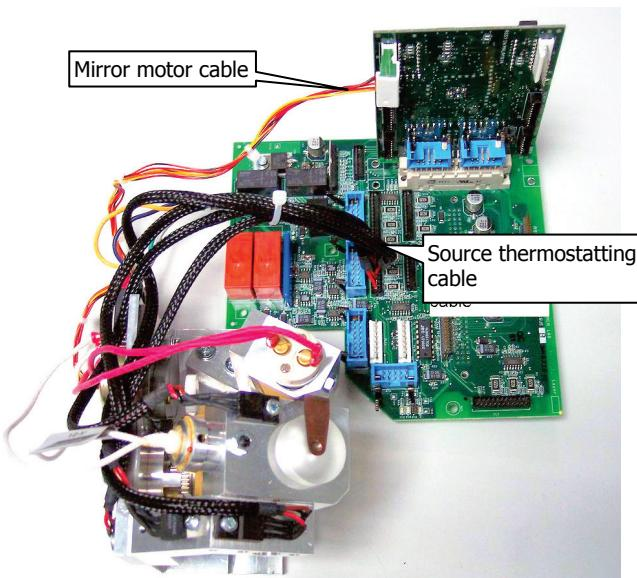

Figure 9 Location of the Motor and Thermostatting Cable Connectors
For clarity, Figure 9 shows the location of these connectors with the mirror assembly and circuit board removed.
6. If you have a Spectrum 400 dual-source instrument, reconnect the black source thermostatting cable and the mirror motor cable (Figure 9).